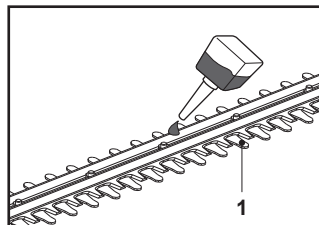

Fig. 11
10. Lubricate the internal surfaces of the blade if the cutting device (blade) (1) overheats during operation (Fig. 11).